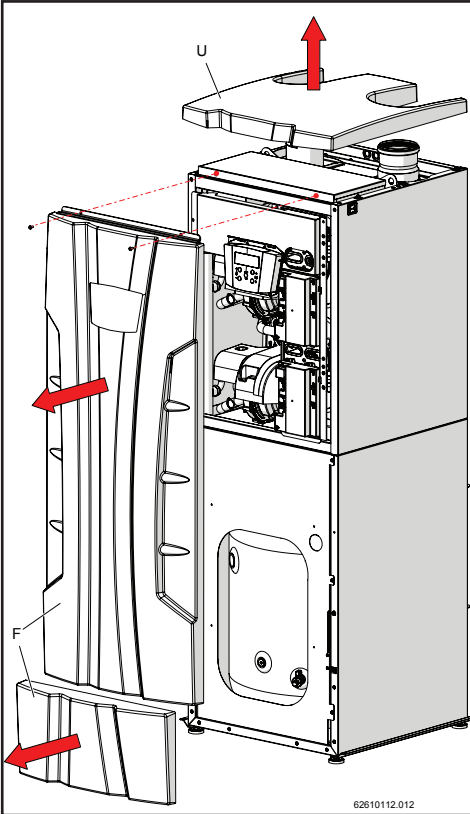

Figure 12-4
- 2.- Remove the lower and upper front coverings "F" and the upper covering "U" from the appliance, as shown in figure 12-4.